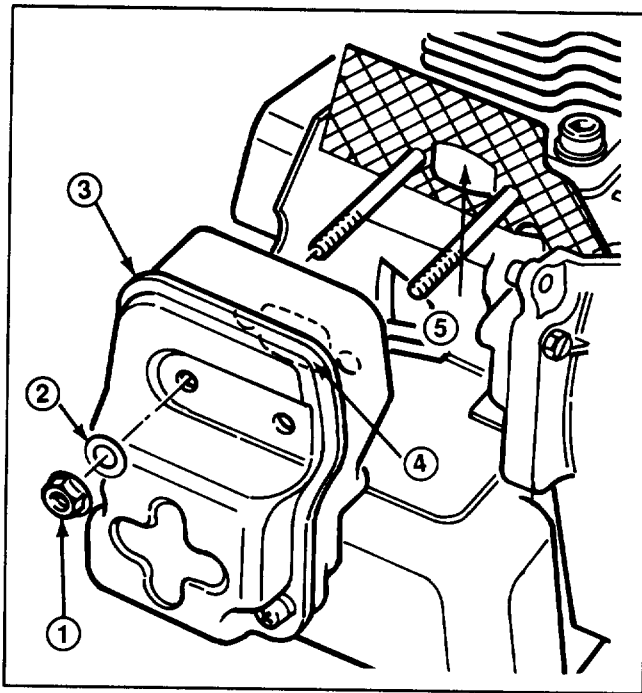

Figure 15
2. Remove two (2) nuts and two (2) washers securing muffler to engine (Fig. 15). Remove muffler.
3. Clean any carbon build-up from muffler port (Fig. 15).
4. Pull recoil starter slowly to rotate the engine crankshaft until the piston totally covers the exhaust port (Fig. 15). Clean the exhaust port area by using a clean, flat piece of hard wood. Remove all loose particles.
1. Drain gasoline from fuel tank. Remove spark plug cover by squeezing sides together and slide off engine cover (Fig. 15). Pull wire off spark plug.